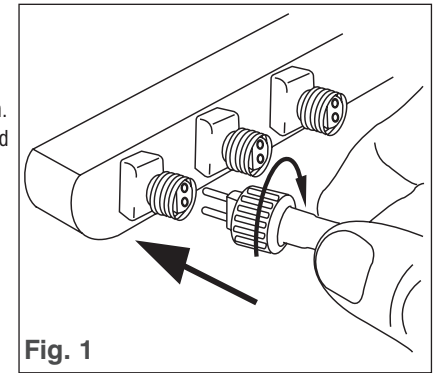

Fig. 1
- Connect each light fitting extension cable to the connection box by inserting the pins into the connection and tightening the threaded collar. See Fig. 1. Please note a maximum of 4 spike lights can be connected. If more than 4 spike lights are connected, the kit will not function properly and may cause damage to the light fitting.
• **To operate the set with the night sensor:** Connect the cable from the transformer to the 'input' side of the photocell using the method shown in Fig. 1. Repeat this method by connecting the 5m extension cable to the 'output' side of the photocell. Your lighting system will now switch on at dusk and off at dawn.
• **To operate the set without the night sensor:** Simply connect the cable from the transformer to the cable from the connection box using the method shown in Fig. 1. Your system will now operate only when switched on/off at the mains socket switch.